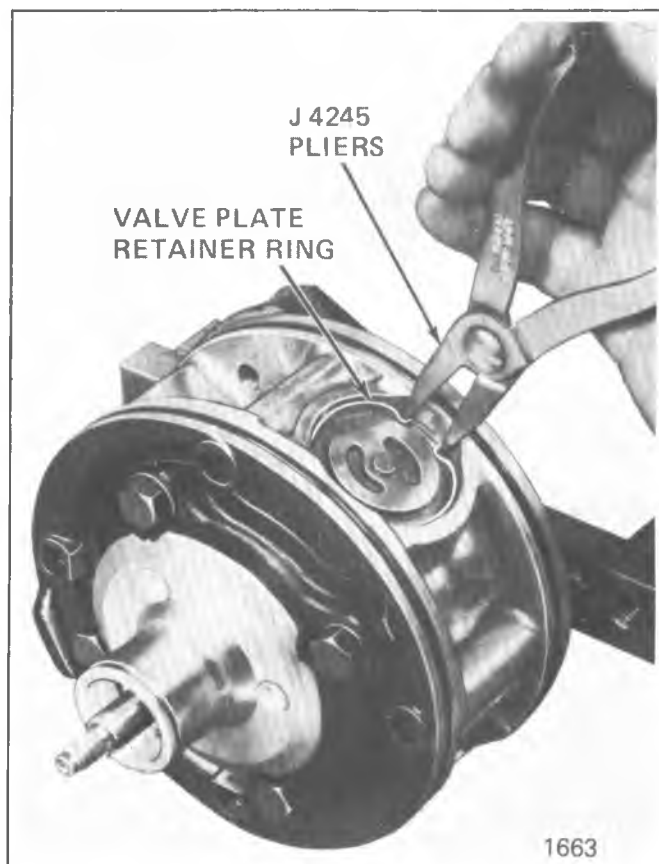

Figure 1D-111 Replacing R-4 Valve Plate Retainer
4. Install Discharge Valve Plates and/or Retainers as shown in Figures 1D-111 and 1D-112. Reposition compressor and Holding Fixture in vise as necessary for access.